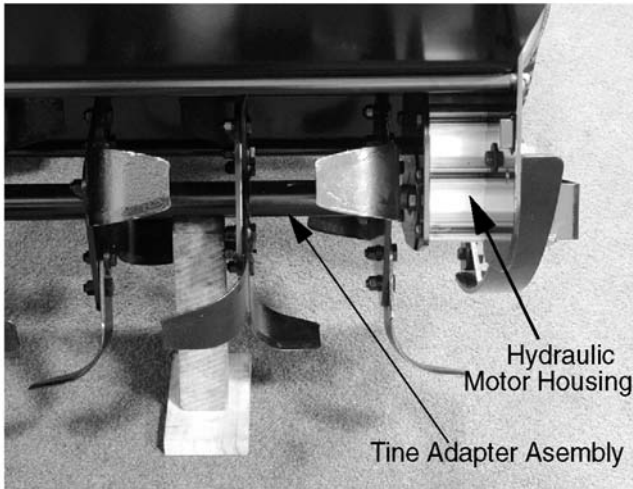

Figure 8-99.
3. Support the tine adapter assembly with a one foot 2x4 with a "V" notch in one end. See Figure 8-99.